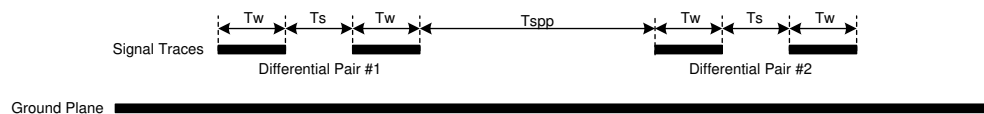

Figure 9-16. DMD Differential Layout Recommendations
DLPC7530 I/O timing parameters as well as DMD I/O timing parameters can be found in their corresponding data sheets. Similarly, PCB routing mismatch can be budgeted and met through controlled PCB routing. PCB design recommendations are provided in Table 9-8, Figure 9-16, and the paragraph below as a starting point for the customer.
- (1) Recommendations to achieve the desired nominal differential impedance as specified by R_{DIFF} in Section 5.7.
- (2) These parameters show recommendations based on the micro-strip design shown in Figure 9-16. This design minimizes signal loss to support longer trace lengths at the expense of electromagnetic interference (EMI). The designer has the option to use a stripline design for shorter trace lengths and to target minimizing EMI at the expense of signal loss.
- (3) A reduced inter-lane spacing can be used to escape the controller ball field, however, widen this spacing to at least the stated minimum after the escape.